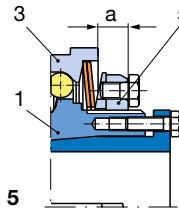

Fig. 5
- EAS®-Compact® ratchetting and synchronous clutch (Sizes 01 - 3): Dimension “a” is the distance between the adjusting nut facing-side (5) to the thrust washer facing-side (3) (Fig. 5).